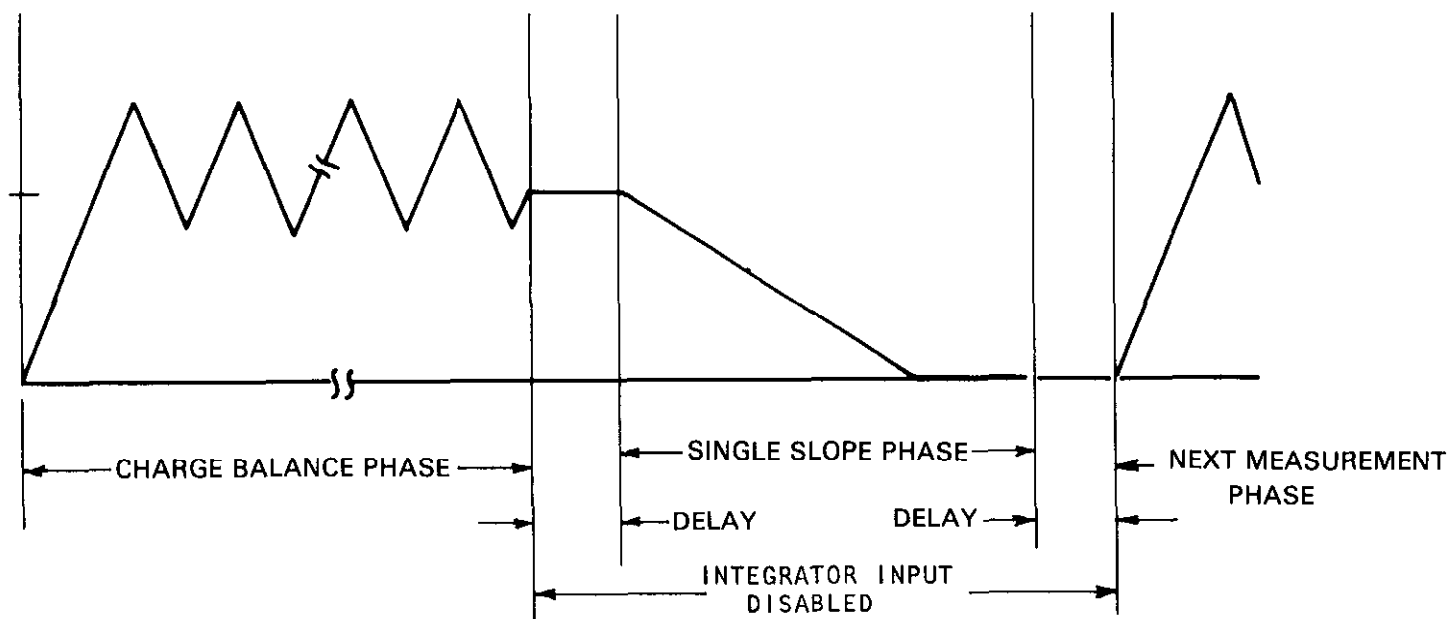

Figure 6-11. Integrator Output Waveform
- B. Check Integrator Output (U506 pin 2) as shown in Figure 6-11 Integrator output waveform.